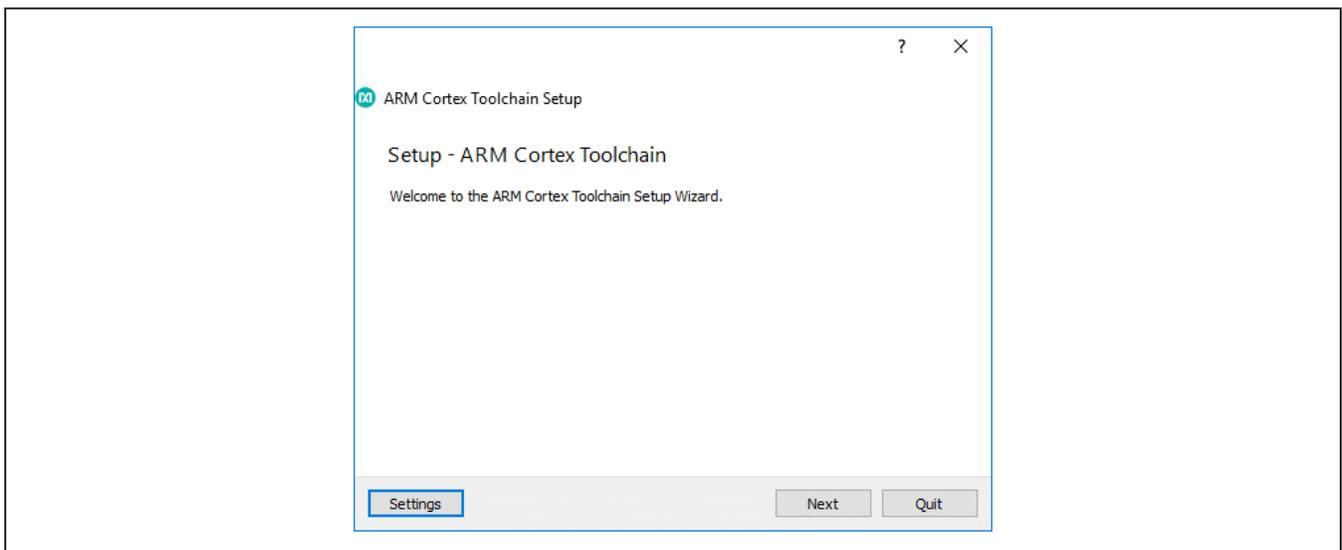

Figure 3. Toolchain setup wizard.
- 3) Follow the prompts on the setup wizard (Figure 3) to finish installation.